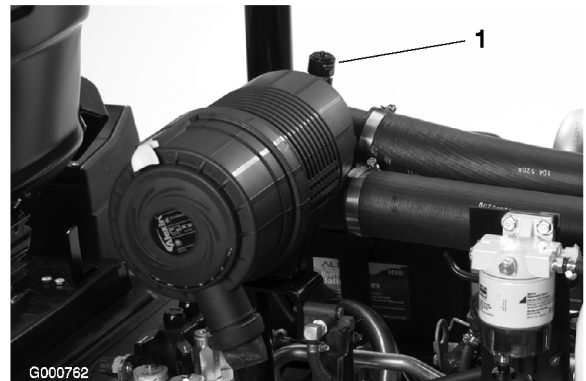

Figure 38
Service the air cleaner filter only when the service indicator (Figure 38) requires it. Changing the air filter before it is necessary only increases the chance of dirt entering the engine when the filter is removed.
6. Reset the indicator (Figure 38) if it shows red.